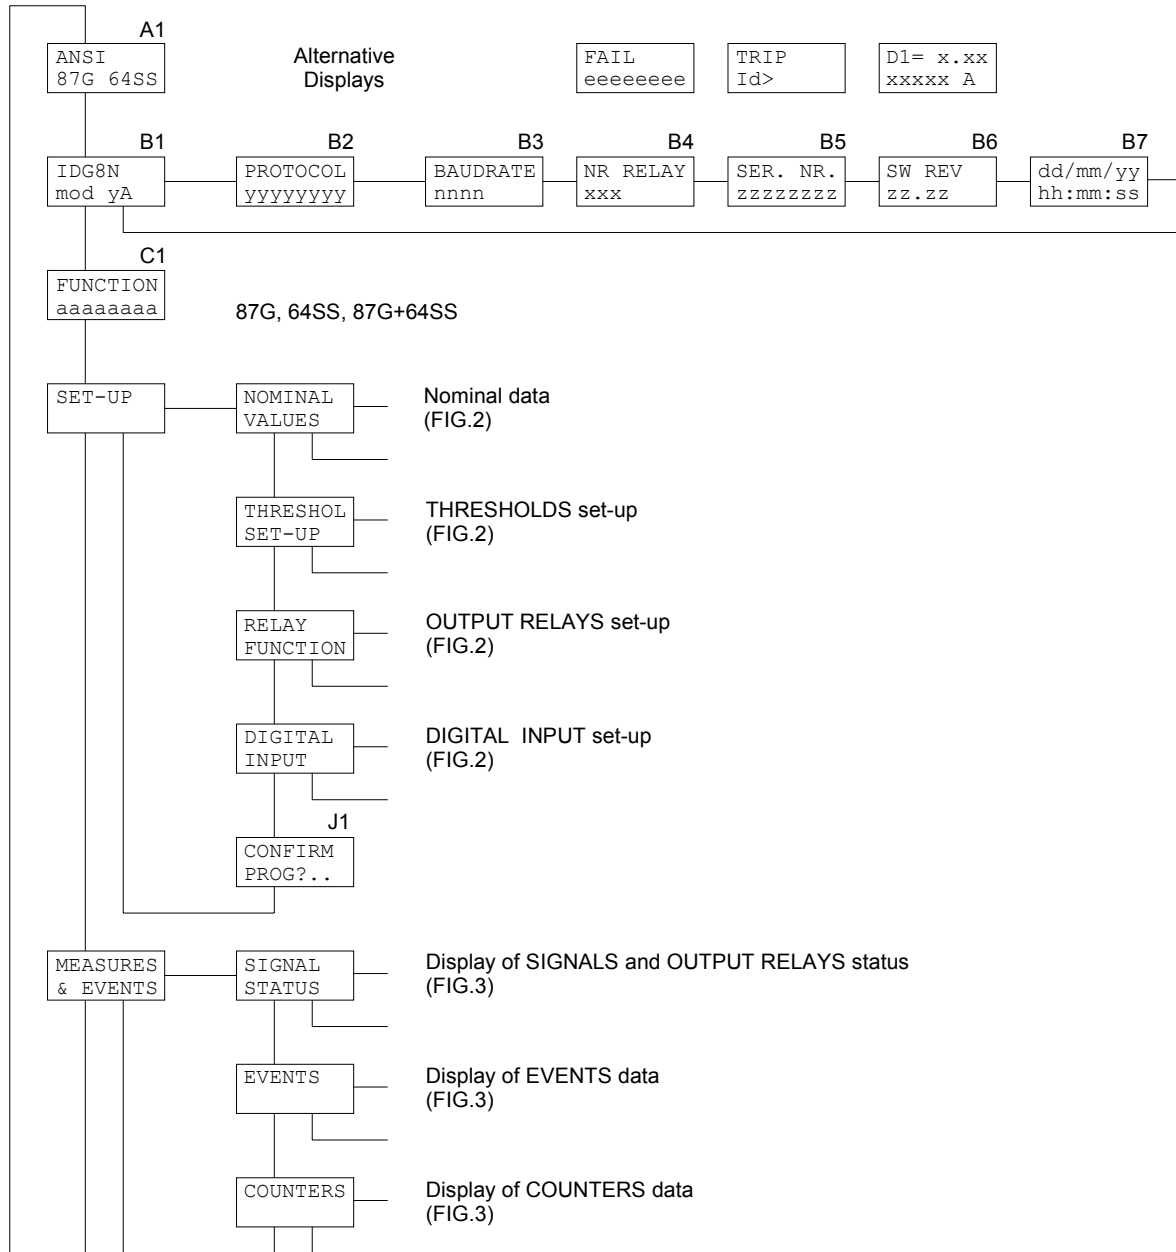

Figure 1
- the structure of the visualizations and their contents are shown in Figures 1, 2 and 3.
The programmable parameters are showed in Figures 1, 2 and 3 at the following references:
- 5) **CONFIRM** the new protection relay set-up at the visualization CONFIRM PROG? (Fig. 1, ref. J1) within 5 minutes depressing the push-buttons [ENTER],  up to visualize **YES** and [ENTER] again to confirm.
- display on STANDARD MODE (Fig. 1, ref. A1 - par. 5.1)
The contents and the structure of the displayed messages are shown in figures 1, 2 and 3; the references A1, B1, B2 etc. identify specific displayed messages in the figures.
5.3 Address and time (fig. 1)
5.4 Function selection (fig. 1)**C1 - FUNCTION SELECTION (programmable)**